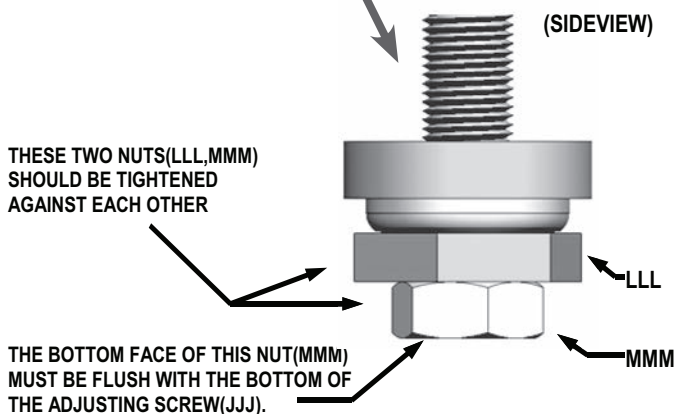

Figure 39
Step 54: Thread the Aluminum Bearing Nut (LLL) onto the Screw (JJJ) from the bottom. Leave some room below the Bearing Nut (LLL), and thread a 1/2-20 SS Left-Hand Jam Nut (MMM) onto the Screw (JJJ). The Jam Nut (MMM) and Bearing Nut (LLL) should be tightened against each other as shown in Figure 39.